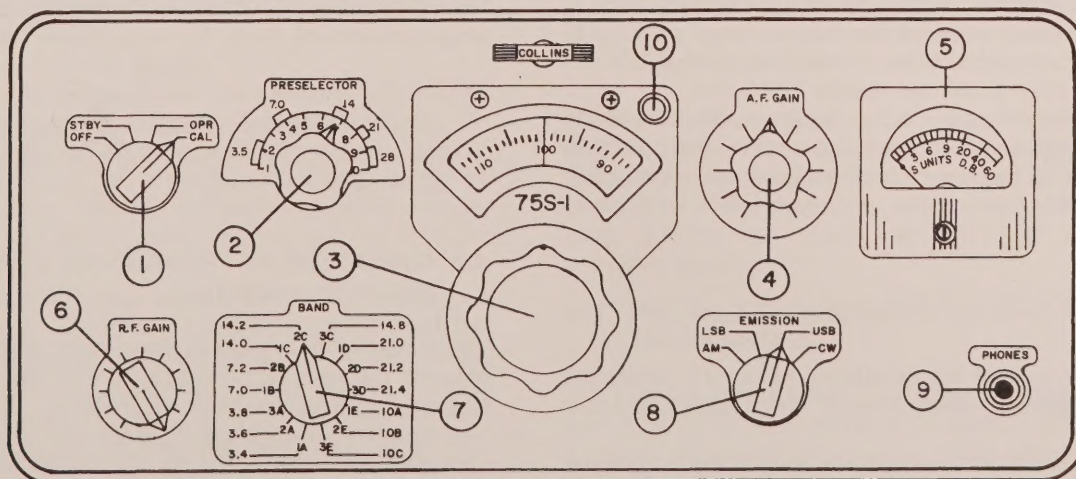

Figure 2-1. Panel Controls
- After making external connections, set controls as shown in figure 2-1.
- Set BAND switch (7) to desired frequency band. Set dial to 0, 100, or 200 with tuning knob (3).
- Adjust PRESELECTION (2) for maximum signal or noise output.
- Adjust zero set knob (10) until dial is calibrated.
- Set controls as shown in figure 2-1, except set OFF-STBY-OPR-CAL switch (1) to OPR.
- Set EMISSION switch (8) to desired sideband.
- Peak PRESELECTION control (2) for maximum signal or noise output.
- Tune in signal, and adjust A.F. GAIN (4) for desired audio output level.